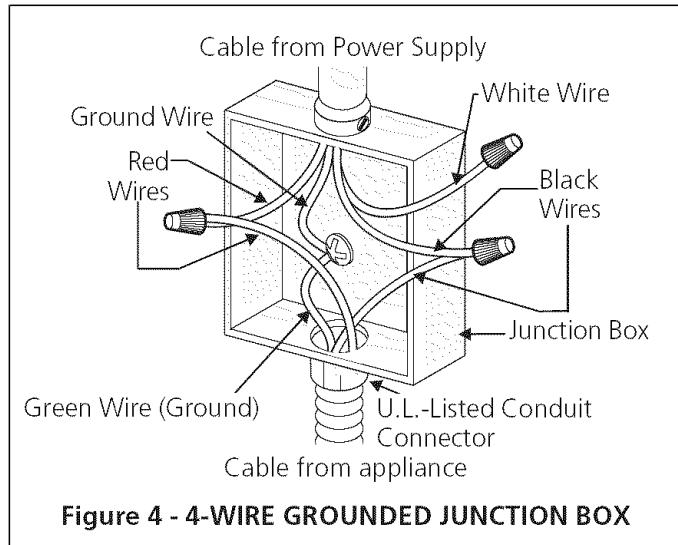

Figure 4 - 4-WIRE GROUNDED JUNCTION BOX
! WARNING You may not ground the cooktop through the neutral (white) wire if cooktop is used in a new branch circuit installation (1996 NEC), mobile home, recreational vehicle, or where local codes do not permit grounding to the neutral (white) wire. When grounding to the neutral (white) wire is prohibited, you must use a 4-wire power supply cable. See Figure 4. Failure to heed this warning may result in electrocution or other serious personal injury.
If cooktop is used in a new branch circuit installation (1996 NEC), mobile home, recreational vehicle, or where local codes DO NOT permit grounding to the neutral (white) wire (see figure 4):
2. In the circuit breaker, fuse box or junction box, connect appliance and power supply cable wires as shown in figure 4.